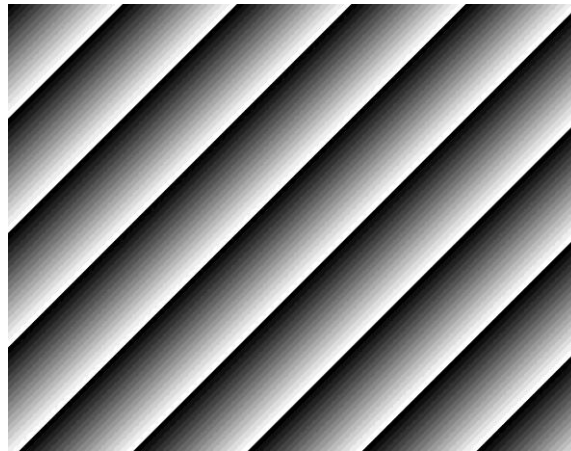

Figure 18 – Diagonal pattern
3. Diagonal ramp – a grayscale diagonal gradient as shown in Figure 18.